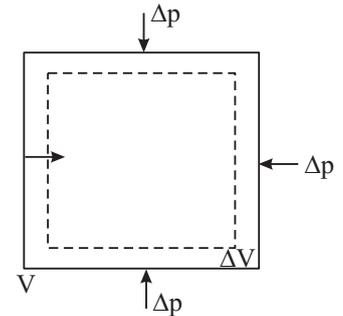

Fig. 8.7: Volume strain
- (ii) **Volume Strain :** If on application of a uniform pressure Δp , the volume V of the body changes by ΔV (Fig 8.7) without change of shape of the body, then